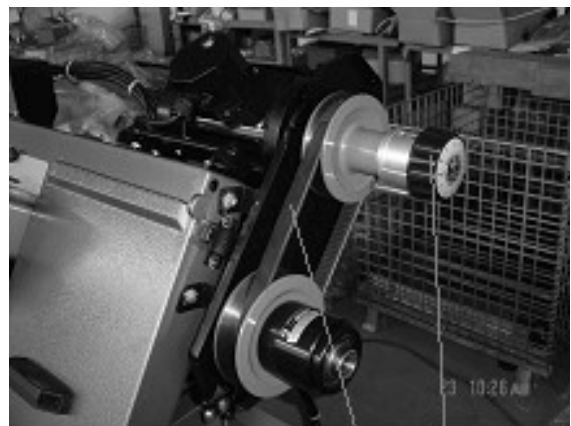

Fig. 6-1 B C
If the belt (B) (Fig 6-1) is too loose, Loosen screw nut (A)(Fig5) adjust the screw to proper tension and lock the screw nut.
The cutting speed is controlled by speed change C (Fig 6-1). Turn it clockwise to decrease the cutting speed and increase the cutting speed by turning counter-clockwise. Change speed always when motor is running, and be sure the belt cover is always in locked position.